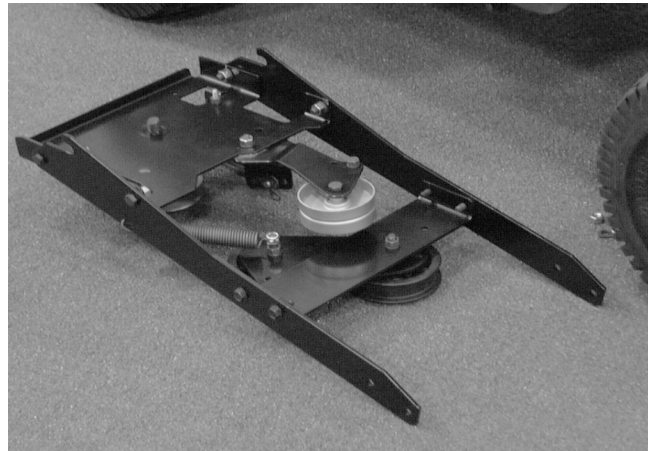

FIGURE 3.
7. Attach extension spring between hex nuts on the flat idler, leaving slightly loose, and hole on right side plate. See figure 3.